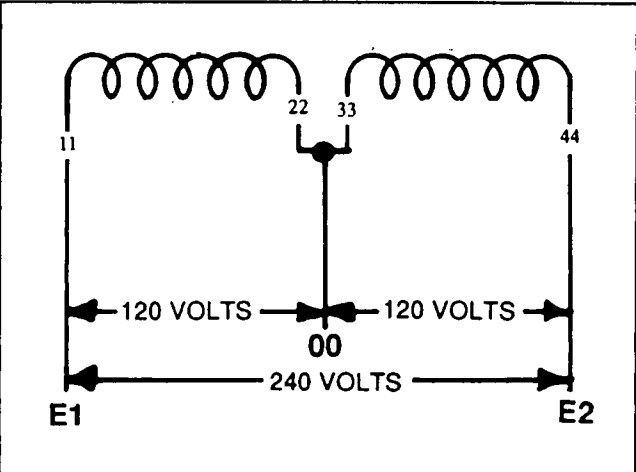

Figure 2. Dual Winding, 1-Phase Stator System
See Figure 2. Units with Voltage Codes "A" and "M" are equipped with stators having dual windings. Two leads are brought out of each winding and routed into the AC connection (lower) panel, for a total of four (4) leads. The leads are numbered 11, 22, 33 and 44. Leads 11 and 44 become the two "Hot" leads (E1 and E3). The junction of leads 22 and 33 forms the "Neutral" connection (00).